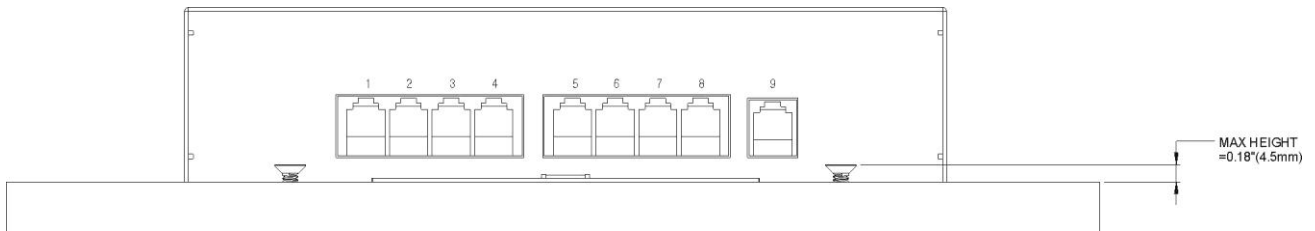

Figure 2
- C. Insert the two M4.0 mounting screws and tighten until approximately 0.18" (4.5mm) remains exposed. See Figure 2.